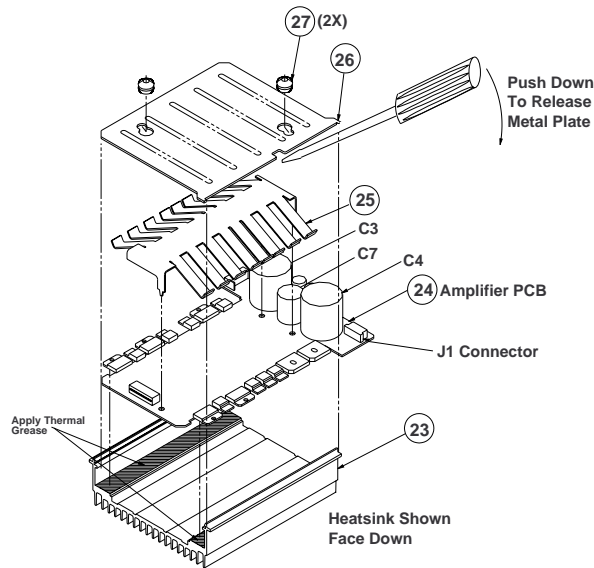

Figure 7. Amplifier Assembly
5.6 Place the tip of a flat-head screwdriver into the metal plate's (26) small rectangular slot. Quickly pry the heatsink wall back just enough to release the metal plate from the heatsink. Refer to Figure 7.